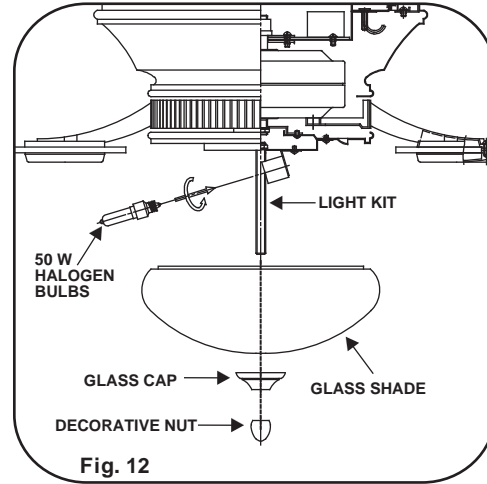

Fig. 12
1. Install 2x50W halogen bulbs (included) into bulb sockets. (Fig. 12)
2. Remove the glass cap and decorative nut from the light kit. Raise the glass shade up against the light kit, place the glass cap and decorative nut against the glass shade and secure it to the stem by turning the decorative nut clockwise until snug. Do not overtighten. (Fig. 12)